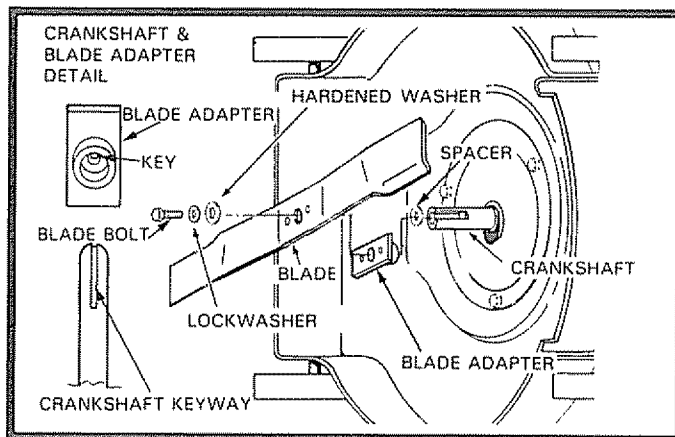

FIG. 11
- Remove blade and attaching hardware (bolt, lockwasher and hardened washer) (See Fig. 11).
NOTE: When replacing the blade adapter, be sure the spacer is in place inside the hub of the blade adapter, otherwise the blade will be out of location and affect the cutting height (See Fig. 11).
NOTE: Be sure the word TOP (stamped on the blade) is toward the engine (See Fig. 11).
- Install the blade bolt with the lockwasher and hardened washer into blade adapter and crankshaft (See Fig. 11).